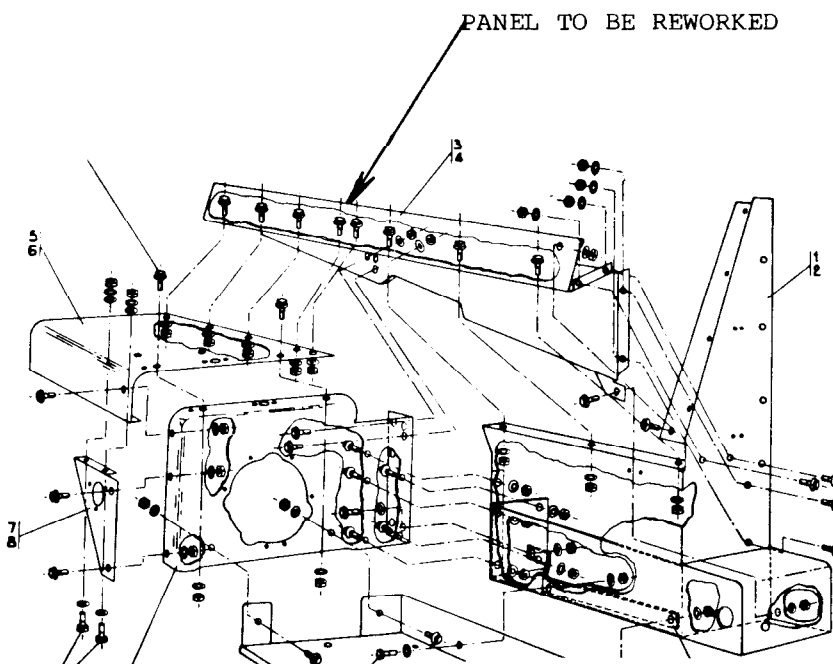
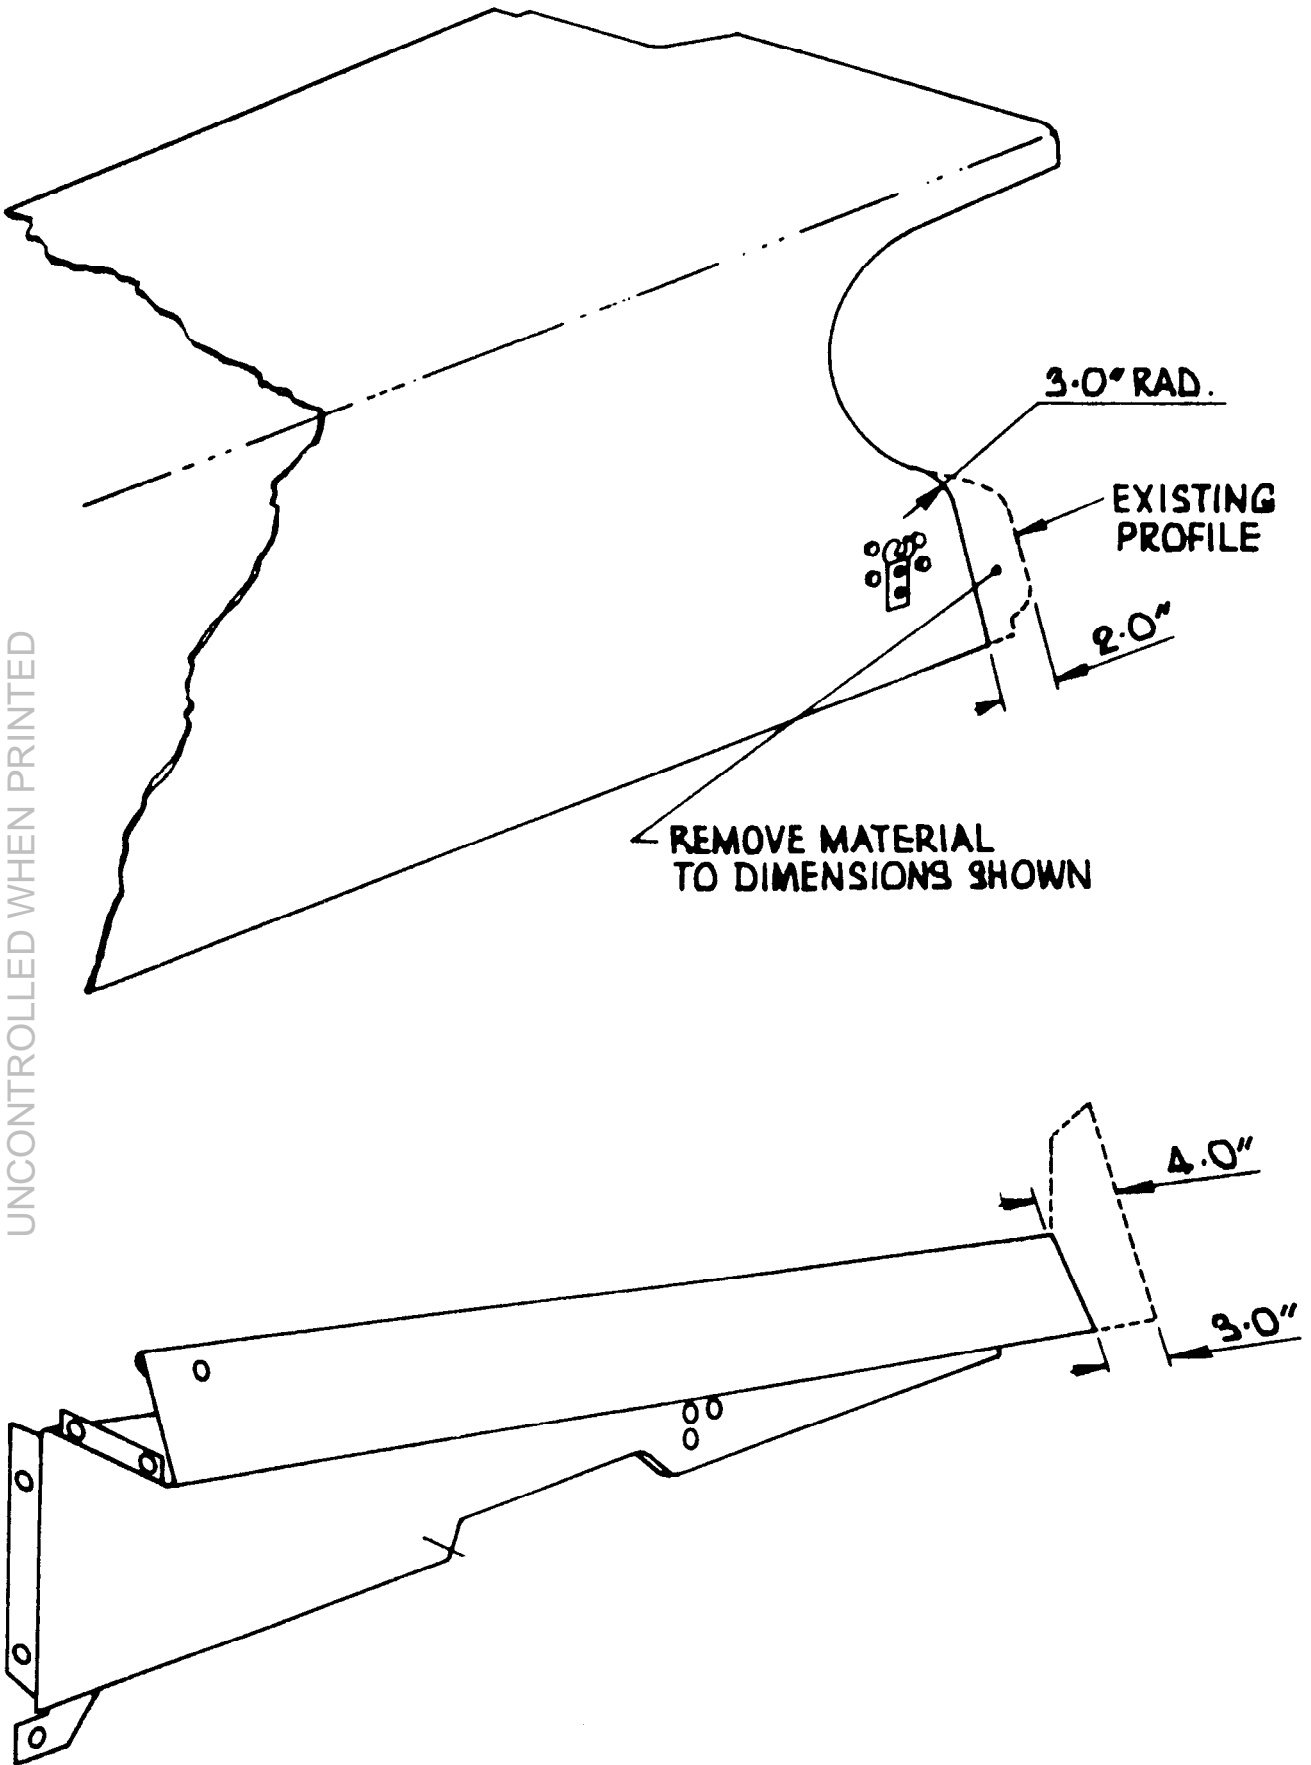

FIG 2 - MUDGUARD ASSEMBLY - PANEL TO BE REWORKED
FIG 3 - CUT-AWAY PORTION OF MUDGUARD PANEL
- (1) Remove the air intake, air cleaner clamps, air cleaner and mounting brackets.
- (2) Referring to Fig 2, remove metal from the rear of the panel indicated as shown in Fig 3.
- (3) Dress the reworked area and paint in accordance with WKSP B 700.
- (4) Using a full size template, mark the bonnet panel and cut out the required area.